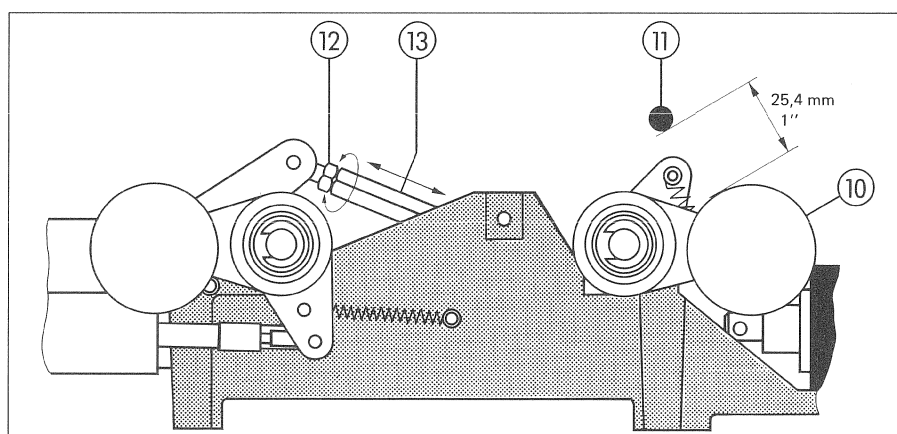

Fig. 4.5
1. Befestigungsschrauben des EDIT-Magneten (1) lösen und diesen an den linken Anschlag schieben, Schrauben provisorisch wieder festziehen.
2. In Stellung STOP soll der Abstand zwischen Andruckrolle (10) und der Tonwelle (11) 25,4 mm (+ 5/-0) bzw. 1" (+ 0,02"/-0) betragen. Zum Einstellen, Kontermutter (12) lösen und Kupplungsstange (13) drehen. Kontermutter wieder festziehen und kontrollieren, ob die Rollen (9) und (10) beim Ein- und Ausschwenken frei spielen (Fig. 4.5).
1. Loosen mounting screws (1) of the EDIT magnet and slide the magnet to the left detent. Temporarily retighten screws.
2. The clearance between pinch roller (10) and capstan (11) in STOP position should measure 25.4 mm (+ 0.5/- 0) or 1" (+ 0.02"/- 0). For calibration, loosen check nut (12) and rotate coupling lever (13). Retighten checknut and check that rollers (9) and (10) have free play while sliding in and out (fig. 4.5).
3. Blind optical tape-end sensor and unplug cable to capstan motor. Depress PLAY key. Loosen mounting screw of pinch-roller magnet (2). Check that armature of pinch-roller magnet (2) has travelled in completely and has reached the detent. By lateral shifting of the pinch-roller magnet, the clearance (17) between pinch-roller arm and auxiliary pinch-roller arm can be set to 0.3 - 0.5 mm in which case only the spring tension remains effective. Retighten mounting screw. To check the adjustment, manually press pinch-roller against capstan and alternately depress PLAY and STOP keys. In PLAY mode, the clearance (17) must be visible.